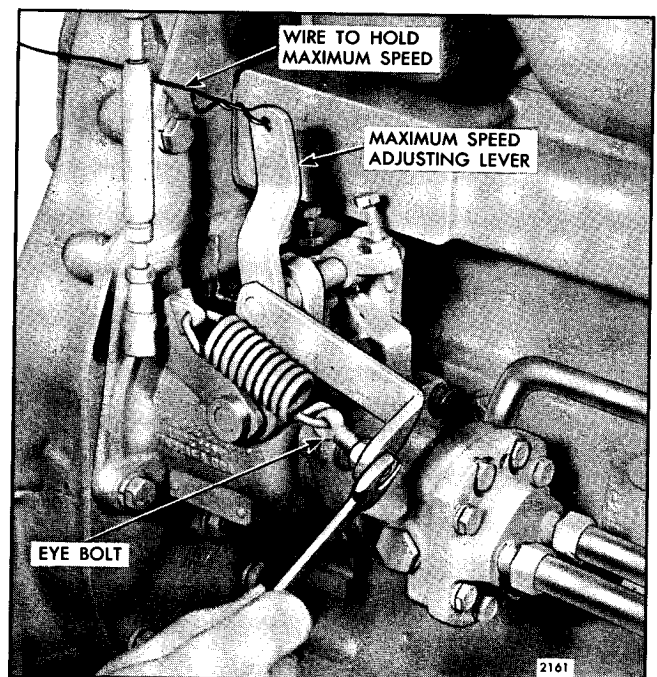

Fig. 6 - Adjusting Engine Droop
1. Speed droop excessive, engine surges less than three times, increase tension of speed adjusting spring. See Fig. 6.